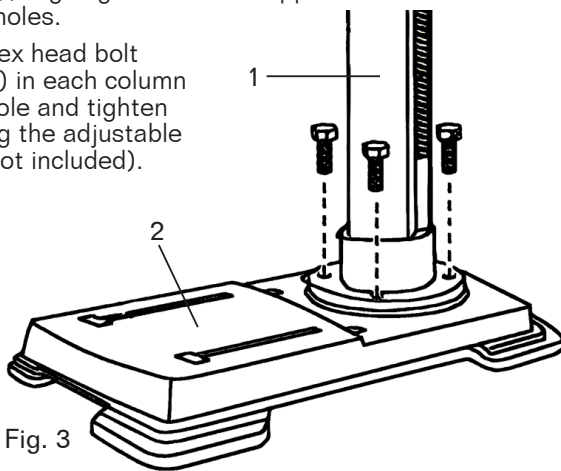

Fig. 3
### ATTACHING COLUMN TO BASE (FIG. 3)
1. Place the column assembly (Fig. 3 - 1) on the base (Fig. 3 - 2), aligning the column support holes to the base holes.
2. Install a hex head bolt (Fig. 3 - 3) in each column support hole and tighten bolts using the adjustable wrench (not included).